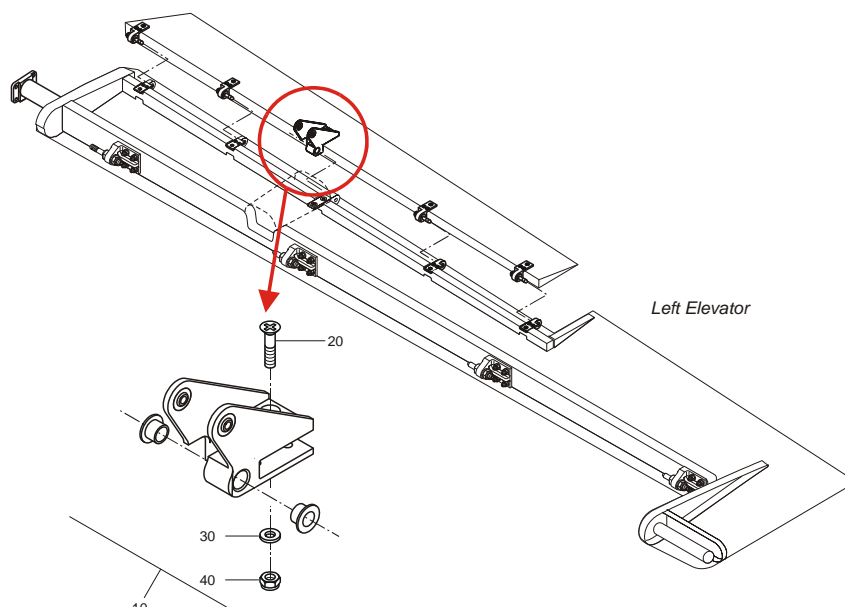

Fig. 3
- 1.8.4 Remove trim tab arm (item 10 in Fig. 3) by removing nut, washer and bolt (item 20, 30, 40 in Fig. 3)
1.8.8 Install trim tab arm P/N 115E-3758 using bolt, washer and new locking nut (item 20, 30, 40 in Fig. 3). Apply correct torque value I.A.W. G 115E AMM chapter 20-10 and G 115EG Job Guide in analogy.
1.8.13 Remove trim tab arm (item 10 in Fig. 3) by removing nut, washer and bolt (item 20, 30, 40 in Fig. 3)
1.8.14 Install new trim tab arm **P/N 115E-3758/1** (item 4 of List 2.2) using bolt, washer and new locking nut (item 20, 30, 40 in Fig. 3). Apply correct torque value I.A.W. G 115E AMM chapter 20-10 and G 115EG Job Guide in analogy.